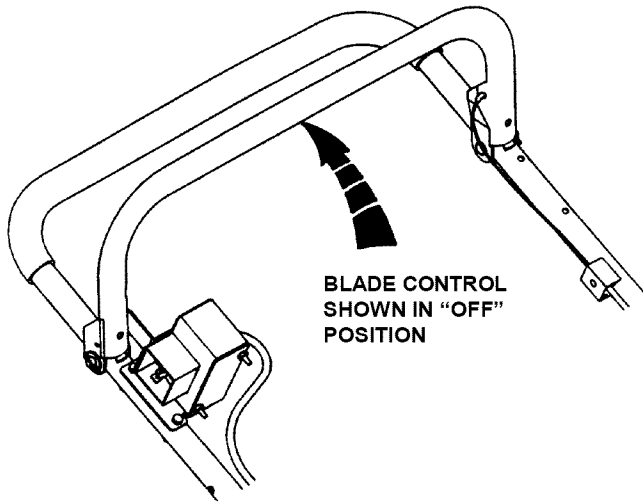

FIGURE 2.1
2.1.2. Check blade control to insure it works freely. See Figure 2.1.